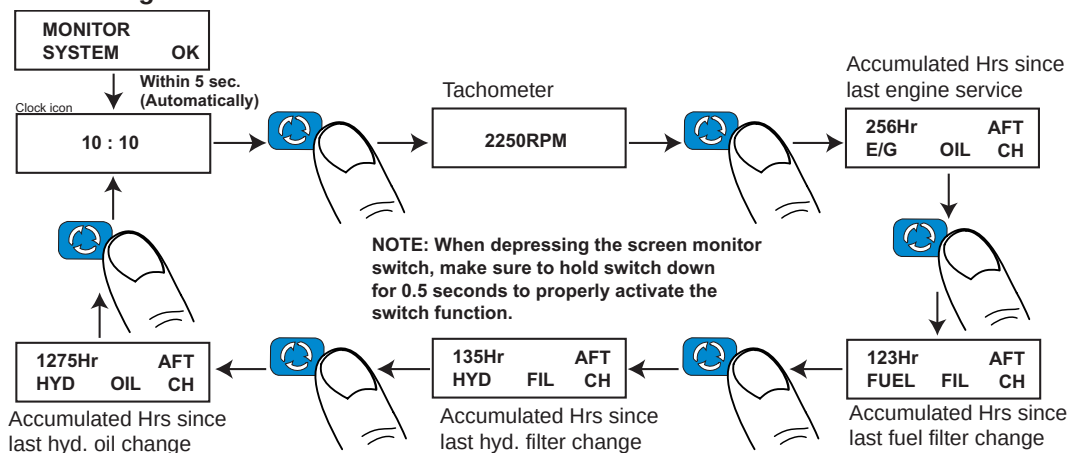

FIGURE 2.7A
3. Screen Change Switch – FIGURE 2.7A